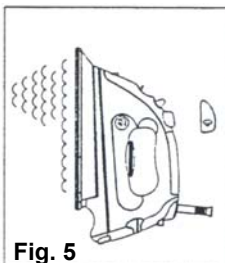

Fig. 5
- For vertical steam, press the blast of steam button while holding the iron in a vertical position. See figure 5. The vertical steam function is useful for steaming curtains and drapes while still hanging.